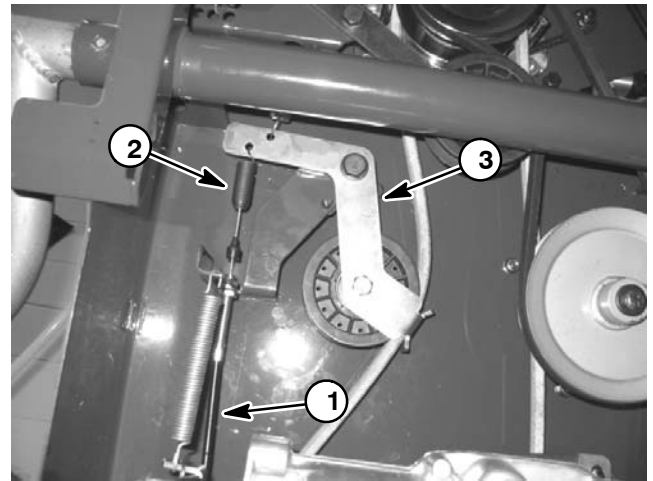

Figure 12
3. Disconnect traction drive cable from traction idler bracket under machine (Fig. 12):
3. Connect traction drive cable to traction idler bracket under machine (Fig. 12):